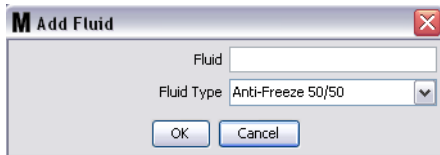

FIG. 95
3. On the Add Fluid screen type in a name for the fluid in the Fluid field (FIG. 95) (40 characters maximum). For ease of identification and reporting, it is recommended that short Fluid Names are used.